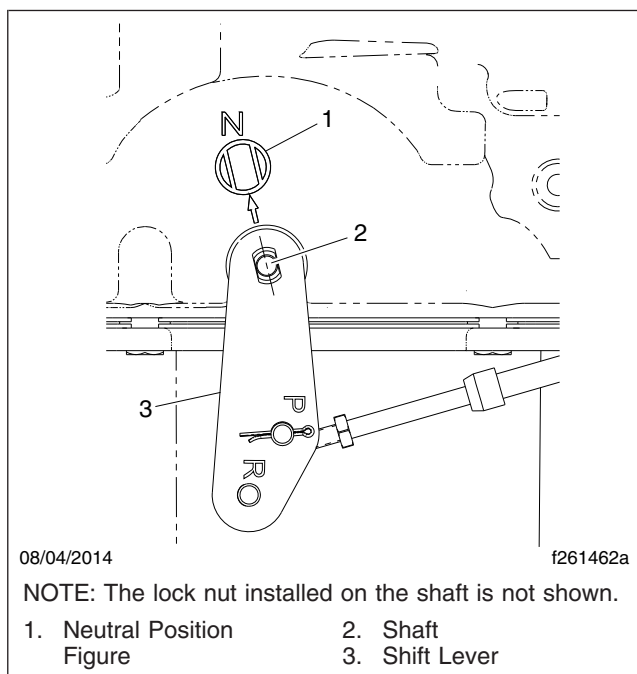

Fig. 7, Shift Lever Neutral Position, Kit ORS 59565
26. Make sure the shift control on the dash is set to NEUTRAL, and the shift lever on the transmission is in the neutral position, as indicated by the flats on the shaft and the neutral position figure cast into the transmission housing. See Fig. 7.